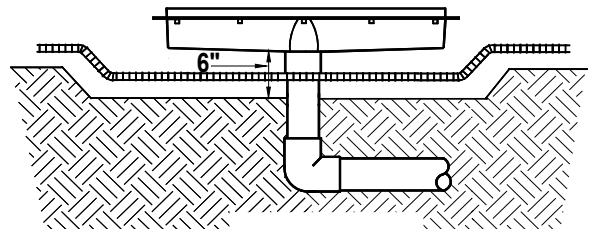

Figure 4
12. The steel re-bar must be bent so that the steel basket drops below the channel drain and is formed so that it is half way between the bottom of the Channel Drain and the bottom of the trench (see Figure 4).